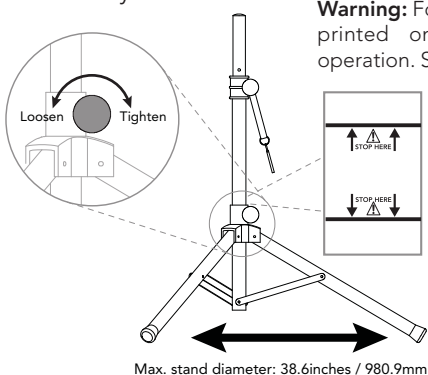

Figure 1.
2. Loosen the lower of the two large thumbscrews and spread the tripod legs. **Follow the height warnings printed on the stand for safe operation** (Figure 1). Setting the height outside this area is forbidden. **Tighten the thumbscrew before placing the SoloAmp on the stand.**